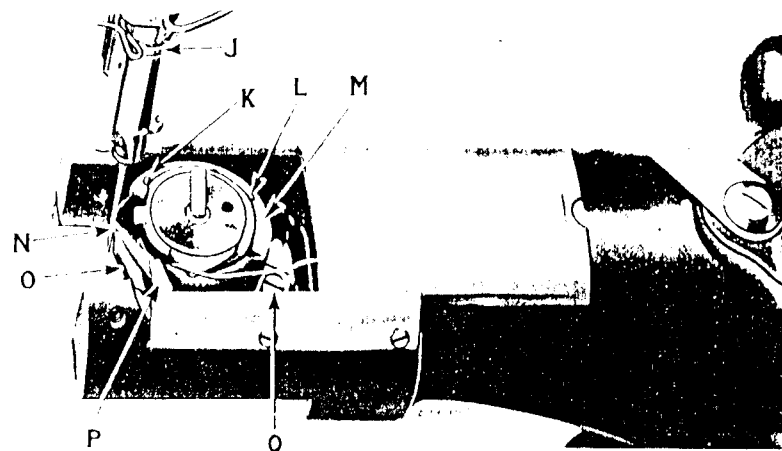
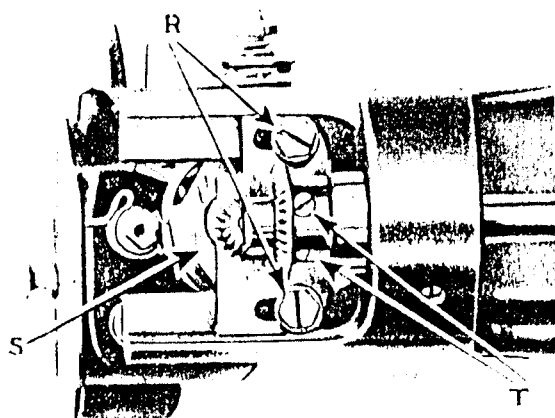

Fig. 15. Needle Bar and Hook Adjustments
Fig. 16. Adjustment of Hook Saddle
See that the needle is up in the bar as far as it will go. The needle bar which is in the machine when shipped from the factory has upon it at (J, Fig. 15) two lines  $3/32$  inch apart.
TO SET A NEEDLE BAR WHICH HAS NO MARK. Set the needle bar so that when it rises  $3/32$  inch from its lowest position the point of the hook (N, Fig. 15) will be at the center of the needle and about  $1/16$  inch above the eye.
Remove the throat plate and turn the balance wheel toward you until the lower mark across the needle bar (J, Fig. 15), as it is going up, is just visible at the end of the bushing; now, if the needle bar and hook are in correct time, the point of the hook (N, Fig. 15) will be at the center of the needle and about  $1/16$  inch above its eye.
Loosen the screws (T, Fig. 16) in the hook driving gear and turn the balance wheel toward you until the needle bar goes to its lowest position and upward until the lower mark across the needle bar (J, Fig. 15) is just visible at the end of the bushing, then stop turning and hold the wheel firmly with the right hand, turn the hook until the point (N, Fig. 15) is at the center of the needle —  $1/16$  inch above its eye — then retighten the gear set screws (T).
Take out the hook gib screws (K and L, Fig. 15) and remove the gib (M) to allow the bobbin case to be taken out, after which remove the screw from the center of the hook. Tap the hook lightly on the bottom of its rim (S, Fig. 16) to force it from its socket. Do not try to pry it out, as prying may bend the shank of the hook. When replacing the hook, be sure that the prongs of the shank properly enter the slot at the top of the socket, otherwise the hook will be out of time. Then replace the screw in the center of the hook, replace the bobbin case and securely fasten the hook gib (M) in position by means of the screws (K and L).
If the sewing hook runs too far from or too close to the needle, loosen the hook saddle screws (R, Fig. 16) just enough to permit the saddle to be driven by light blows to the position desired, then retighten the hook saddle screws (R).
The function of the hook washer (needle guard) (O, Fig. 15), which is attached to the bottom of the sewing hook, is to prevent the point of the hook from striking the needle if, when passing through the material, the needle is deflected towards the hook.
The bobbin case lever (P, Fig. 15) at the left of the sewing hook, actuated by the eccentric on the hook washer, strikes the projection on the bobbin case and turns the bobbin case slightly, making an opening between the bobbin case stop and the stop on the throat plate when the thread is across the bobbin case and passing between the stops.
The bobbin case lever (P) may be adjusted by loosening the bobbin case lever fulcrum screw (Q, Fig. 15) and moving the fulcrum forward or backward.
When replacing the belt see that the sewing hook and needle at (N, Fig. 15) are in correct time before running the belt on the lower pulley, and verify the correctness of the timing before commencing to sew.